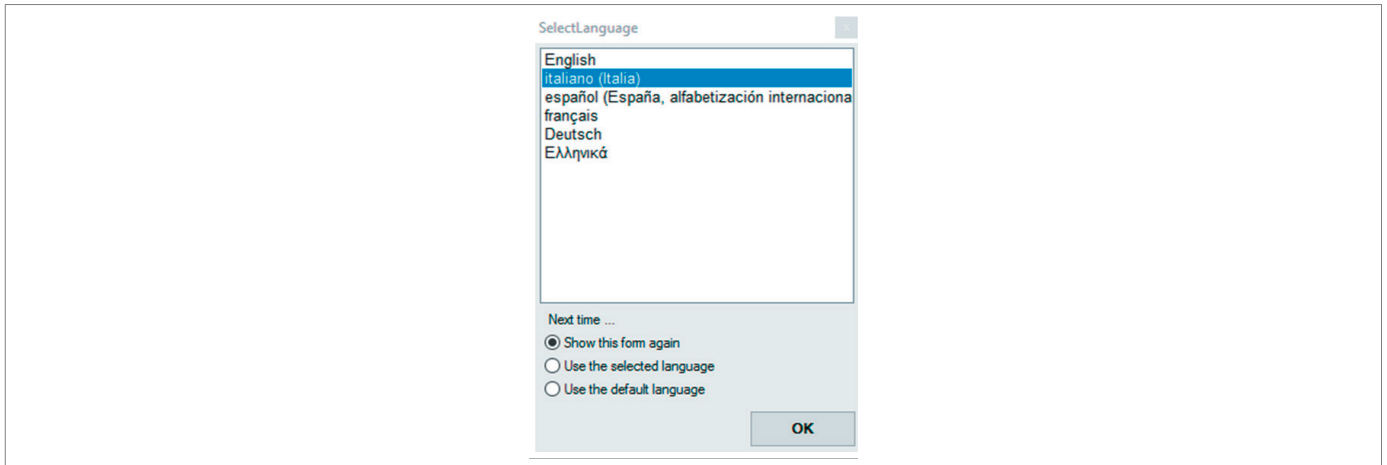

Fig. 8.27. Select language
2. Select the desired language (Fig. 8.27).